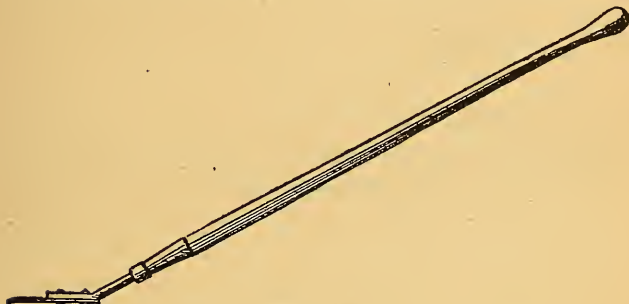

FIG. 14.
4. Although a shovel is the tool most commonly used for cutting weeds on railroads, tools, such as are shown in Figs. 14 and 15, are now being gradually substituted on many roads on account of their superiority in many respects. In the first place, they are more convenient for the men to use, are not so tiresome, and can be handled with greater ease, the men standing in an upright position, when cutting weeds with them, instead of a stooped or bending over position, which must be assumed with a short-handled shovel. From one-sixth to one-fourth more weeds may be cut in a day with this tool than can be done with a shovel. They are less expensive than shovels, and are therefore more economical to use, and the dirt or ballast which would be lifted by a shovel and wasted by careless men is not disturbed by the tools shown, when weeds are cut, but remains in its original position in the center of track or on the shoulder of embankment.
The weed cutting tool, shown in Figures 14 and 15, should have a blade made of very thin, hard steel. The